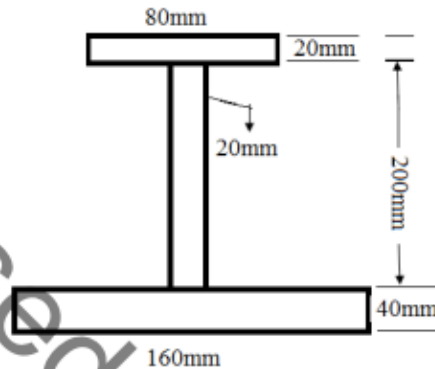

Figure: 3
5. The cross-section of simply supported beam of span 4m is shown in Figure 3. The allowable bending stress in tension is 20MPa. Determine allowable bending stress in compression and the intensity of uniformly distributed load that can be placed over the entire span. [15]